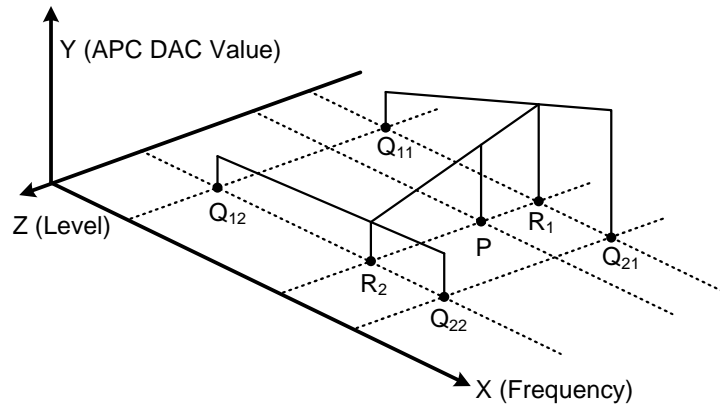

Figure 19: Bilinear interpolation
The calculation of poutbits is based on the calibration values (DAC values) residing on 2-dimensional rectilinear grid (frequency and level). To find DAC value (i.e. poutbits value) for the arbitrary frequency-level point, bilinear interpolation can be used. Calibration data is retrieved from the flash memory – table CTYPE=8, for more details see section 3.4. Suppose that we have four calibration points (Q_{11} , Q_{12} , Q_{21} , Q_{22}) around the point which DAC value we need to find (P), see fig 19. X axis means frequency in MHz, Z axis – output level in dBm, Y – DAC value. So we have $Q_{11} = (x_1, z_1)$, $Q_{12} = (x_1, z_2)$, $Q_{21} = (x_2, z_1)$, $Q_{22} = (x_2, z_2)$, $P = (x, z)$, $Y(Q_{11})$, $Y(Q_{12})$, $Y(Q_{21})$, $Y(Q_{22})$ – are calibration values, and we need to find $Y(P)$.